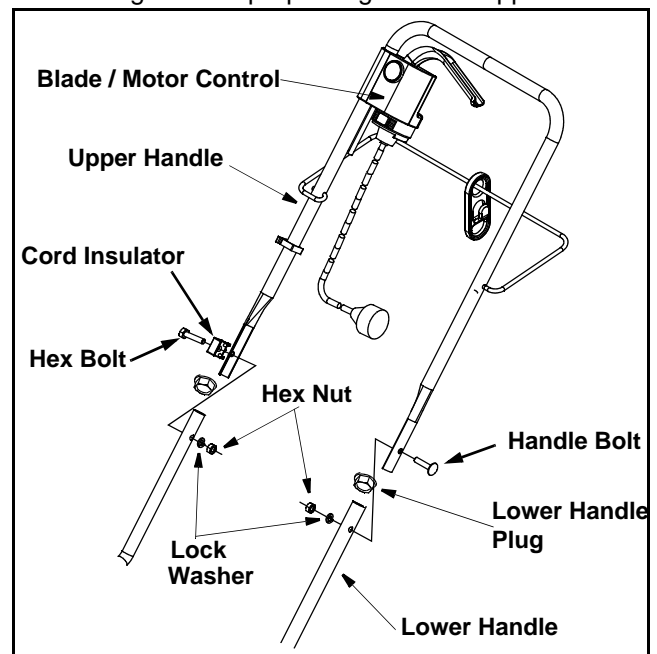

Figure 3
- Standing behind the lawnmower with the upper handle, make certain the two holes that will hold the blade / motor control are on the right hand side. See Figure 3 for proper alignment of upper handle.
- Align the holes in the lower handle with those of the upper handle and insert the hex and handle bolts through both holes as shown in Figure 3.
- Refer to Figure 3 for proper alignment of hardware and handles.